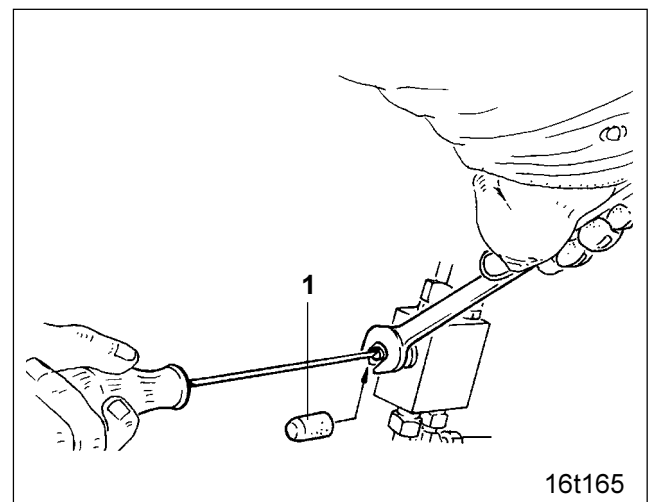
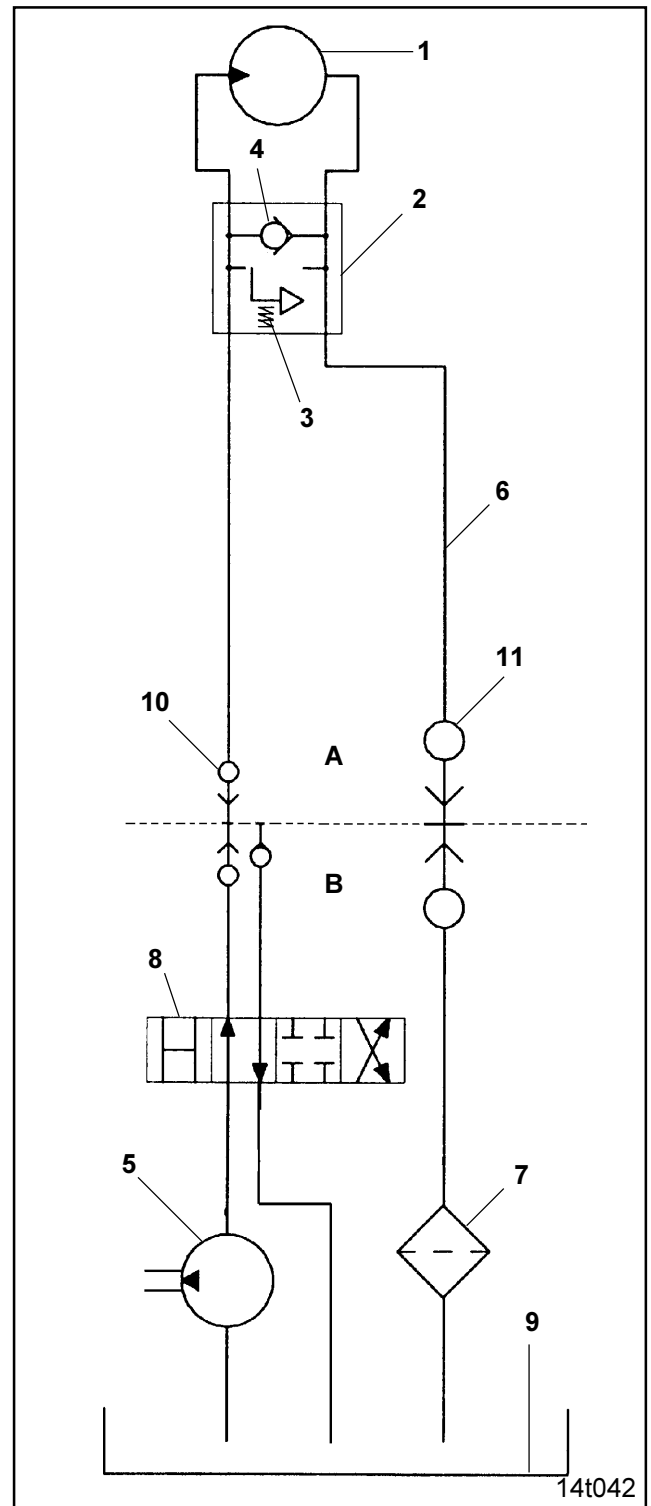

Fig. 12.2
Fig. 12.5
Set the blower fan rev. speed on the pressure limiting valve (Fig. 12.2 or Fig. 12.5/3) or on the oil stream control valve of the tractor (see below).
Procedure for setting the blower fan rev. speed on the pressure limiting (Fig. 12.2 or Fig. 12.5/3):
- Remove protective cap (Fig. 12.2/1)
After setting secure valve by using a counter nut and apply protective (Fig. 12.2/1).
On tractors with controllable hydraulic pump (Fig. 12.5/5) the necessary oil volume should be set at the oil stream control valve of the tractor and the pressure limiting valve (Fig. 12.5/3) should be set in such a way that the oil volume is as little as possible. Larger oil volumes than necessary are returned into the oil tank by the pressure limiting valve and unnecessarily heat up the hydraulic oil.
On the pressure side the blower fan hydrostatic motor (Fig. 12.5/1) may be connected either to a single or to a double acting spool valve (Fig. 12.5/8).
In order not to damage the hydrostatic motor the oil pressure in the return (Fig. 12.5/6) must not exceed 10 bar. Therefore, never connect the return flow to the spool valve (Fig. 12.5/8) but to a pressure-free return flow with a large plug coupling (Fig. 12.5/11). Should it be necessary to install a new return flow tubing, use only DN16, e.g. Ø20 x 2,0 mm and short return flow ways.
The hydraulic oil must be guided through an oil filter (Fig. 12.5/7) at any place of choice.
The check valve (Fig. 12.5/4) allows the blower fan to run after as soon as the spool valve (Fig. 12.5/8) has been shut off.
The hydraulic oil must never get too hot. Large oil delivery amounts in conjunction with small oil tanks promote the quick heating of the hydraulic oil. The capacity of the oil tank (Fig. 12.5/9) should at least have double the oil delivery amount. If the oil gets too hot the installation of an oil cooler on the tractor by a professional workshop is necessary.
Particles of dirt can damage the hydrostatic motor (Fig. 12.5/1) and the pressure limiting valve (Fig. 12.5/3). For this reason always keep clean the coupling parts when connecting the blower fan hydrostatic motor to the tractor's hydraulic to avoid the hydraulic oil becoming dirty.